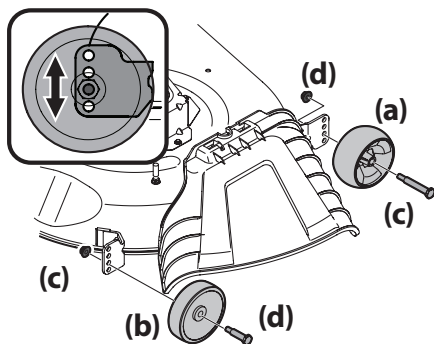

Figure 13
- b. Remove the front (a) and rear (b) deck wheels by removing the flange lock nuts (c) and shoulder bolts (d) that secure them to the deck. See Figure 13.